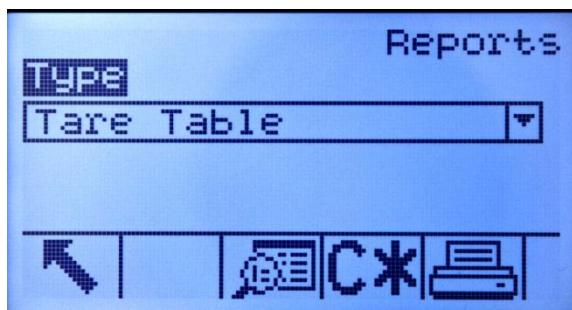

Figure C-11: View Reports Screen
1. Press the REPORTS softkey . The Reports Selection Screen displays (Figure C-11). Only tables that have been enabled in setup are shown. The Tare Table will always be shown.